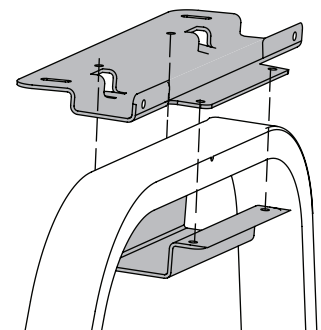

Figure 4
1. Move the Roll Over Protection System (ROPS) to the low position. See Figure 4. Proceed to step 1a for installation on a ZTX model tractor. Proceed to step 1b for installation on a Pro Z model tractor.
2. Slide appropriate bottom ROPS bracket (Item #14) onto ROPS. Align holes in Top ROPS Bracket (Item #11) with the indicated holes in the lower mounting bracket. See Figure 4.